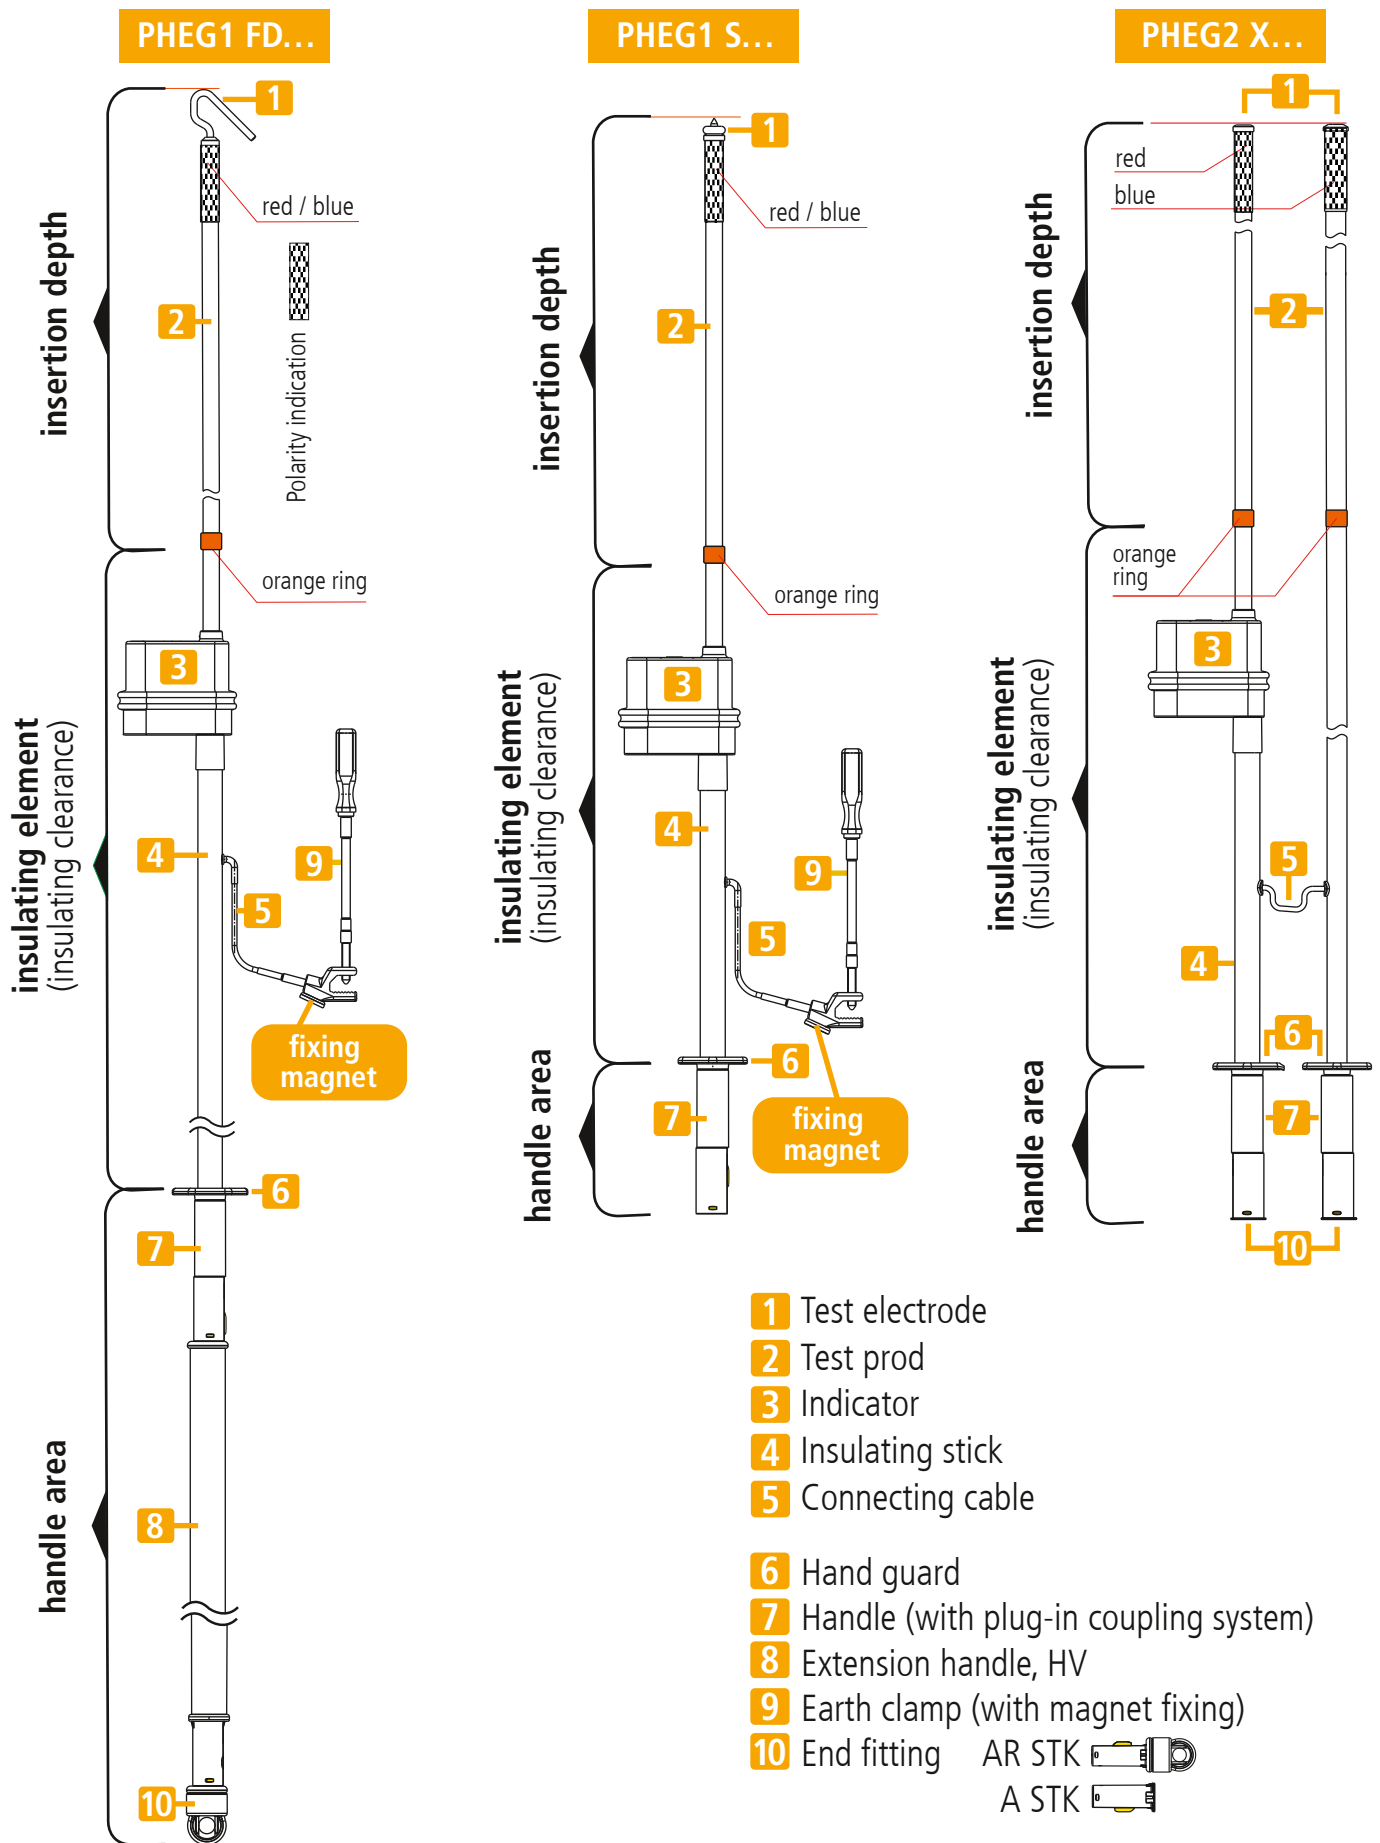

Fig. 1 Models
Type **PHEG...** voltage detectors consist of several elements (see point 4 operation / assembly, Fig. 1).
4. Operation / Assembly (also see Fig. 1, page 5)
The indicator with test prod PHEG... and the insulating stick IS M12... may only be assembled and used as shown on page 5 (Fig. 1).